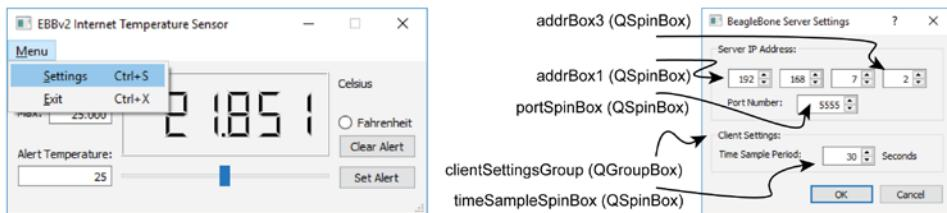

Figure 13-14: The Menu and the Server Settings dialog
1. A new dialog window is added to the application that can be used to enter the server IP address, the service port number, and the reading refresh frequency. This dialog is illustrated in Figure 13-14.